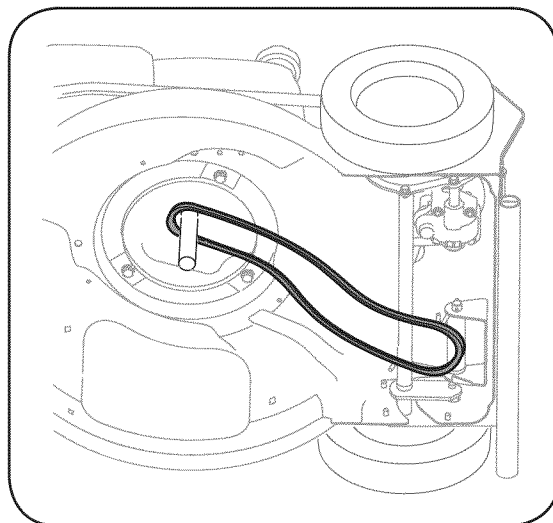

Figure 5-8: Remove belt from crankshaft after freeing it from the transmission pulley.
- Remove belt from around the crankshaft, Figure 5-8. Discard the worn belt.